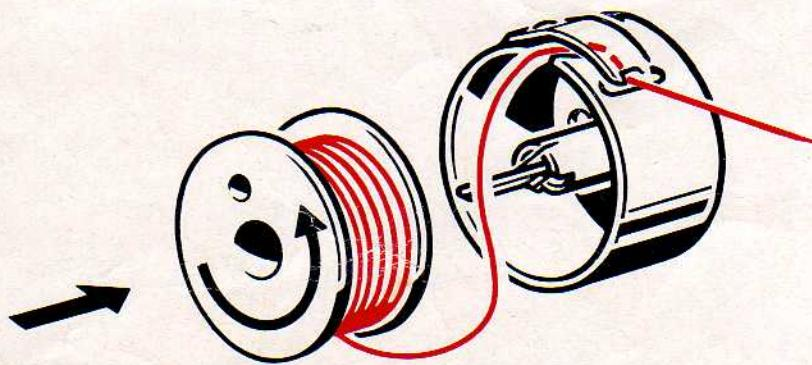

Fig. 2
REPLACE PARAGRAPH AND FIGURE 2 AT PAGE 6 WITH THE FOLLOWING:
2. After bobbin has been filled, insert into case (see Fig. 2)